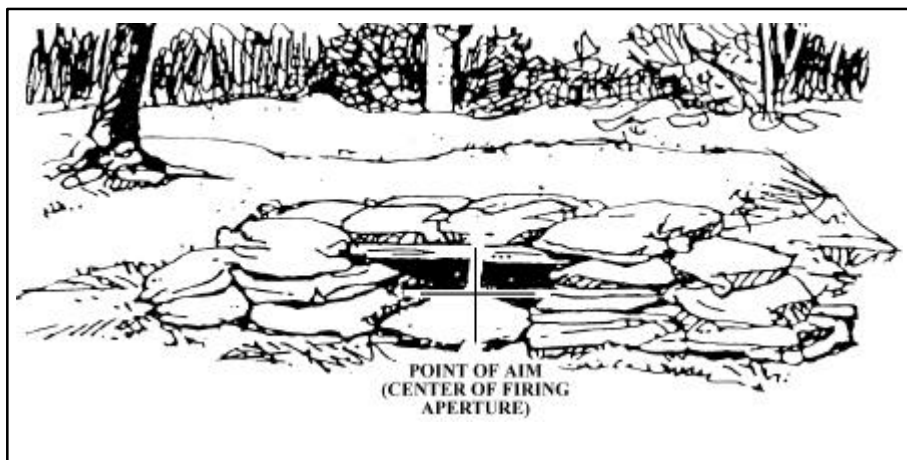

Figure B-3. Point of Aim for Sandbagged Emplacement
(3) Sandbagged emplacements present a different problem (Figure B-3). Because sandbags absorb much of the energy from a shaped charge, the rounds should be aimed at the center of the firing aperture. Even if the round misses the aperture, the bunker wall area near it is usually easiest to penetrate.